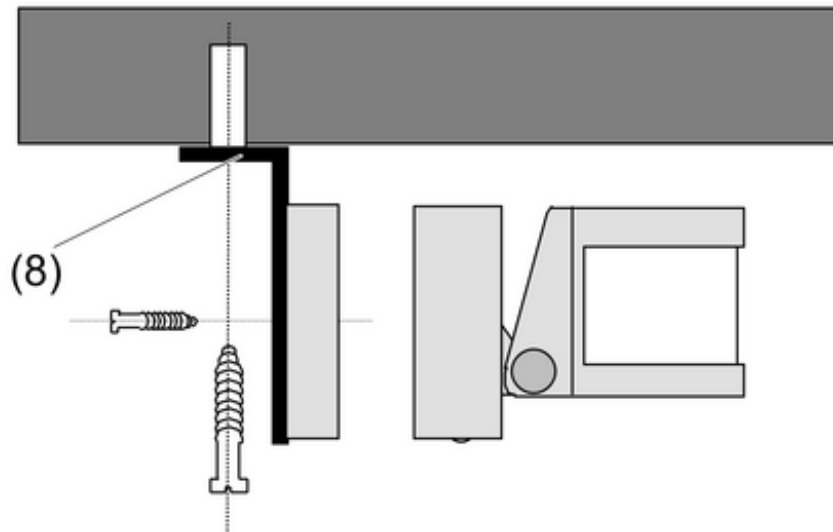

Figure 11
- Fastening the installation bracket (8) to the ceiling with 2 screws (Figure 11).